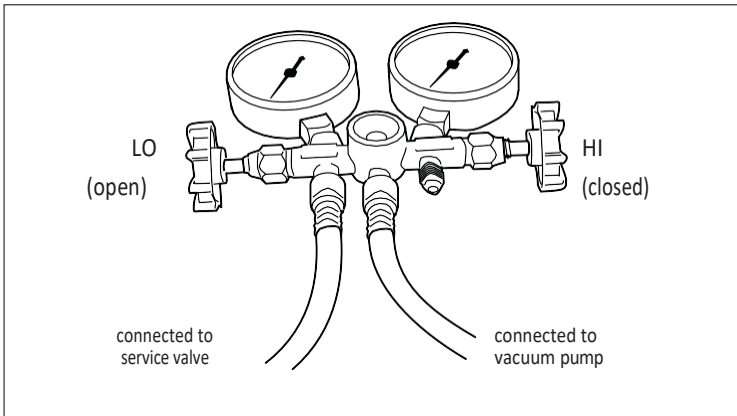

Figure 12. The manifold gauge
2. Connect the left connector on the manifold to the service valve on the outdoor unit (see Figure 12).
3. Connect the vacuum pump to the middle connector of the manifold (see Figure 12).
2. Now open the gas valve by using an Allen key and turning counter-clockwise (see Figure 12 on page 26).